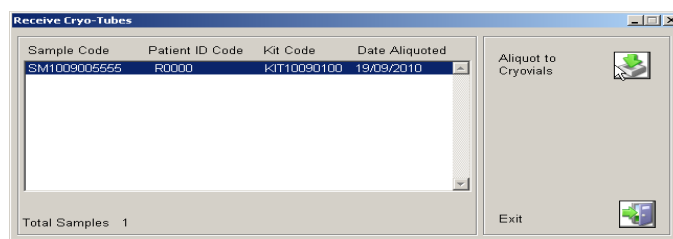

Figure 16 'Receive Cryo Tubes' screen
8. The '**Receive Cryovials**' screen will appear, (Figure 16) double click on the '**Aliquot to Cryovials**' icon  and today's date will appear showing the date that the sample was aliquoted. Repeat this for all the samples.